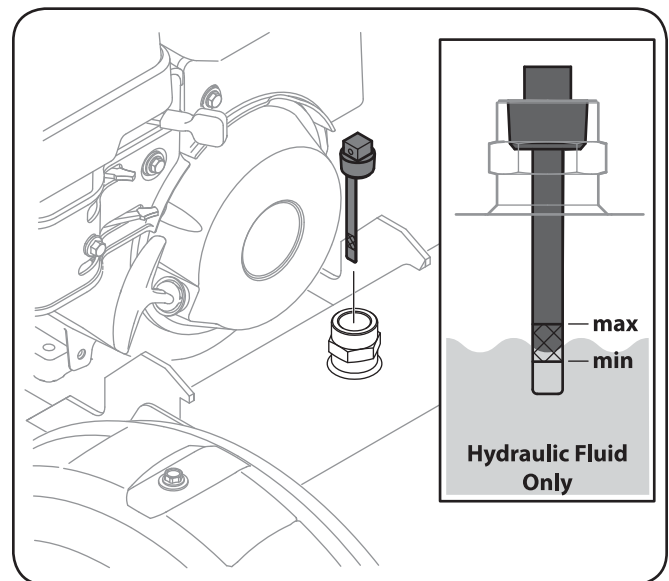

Figure 3-8
- Remove the vented reservoir dipstick, which is located in front of the engine on top of the reservoir tank. See Fig. 3-8.
- Check the fluid level using the dipstick. See Fig. 3-8. Do not overfill.